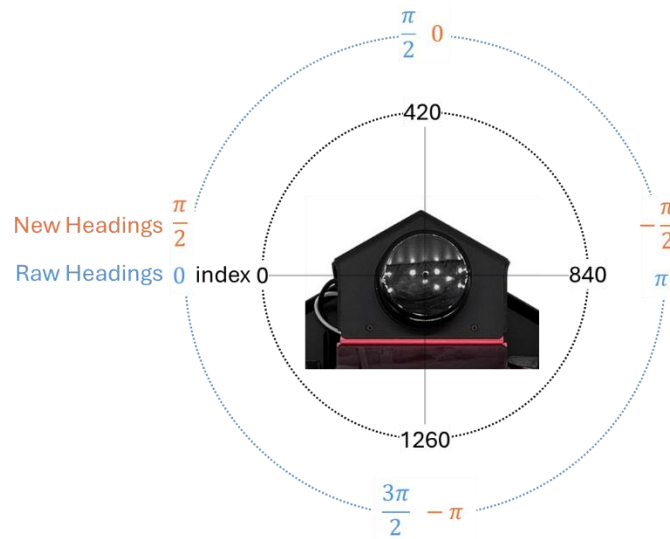

Figure 1. LiDAR measurement correction
3. Notice in **adjust\_and\_subsample()** under **QBPRanging()**, heading angles from the LiDAR sensor are multiplied by -1 and added to  $\pi/2$ . This is to correct the headings such that the angle value of 0 corresponds to the front of the QBot, as shown in Figure 1. In addition, the angles are now increasing counterclockwise, consistent with the positive convention of our reference frame. Furthermore, this function returns every 4th element in the distance and angle data, effectively downsampling these signals fourfold. Downsampling is beneficial in the obstacle detection application as it allows for faster computation when high resolution is not necessary.